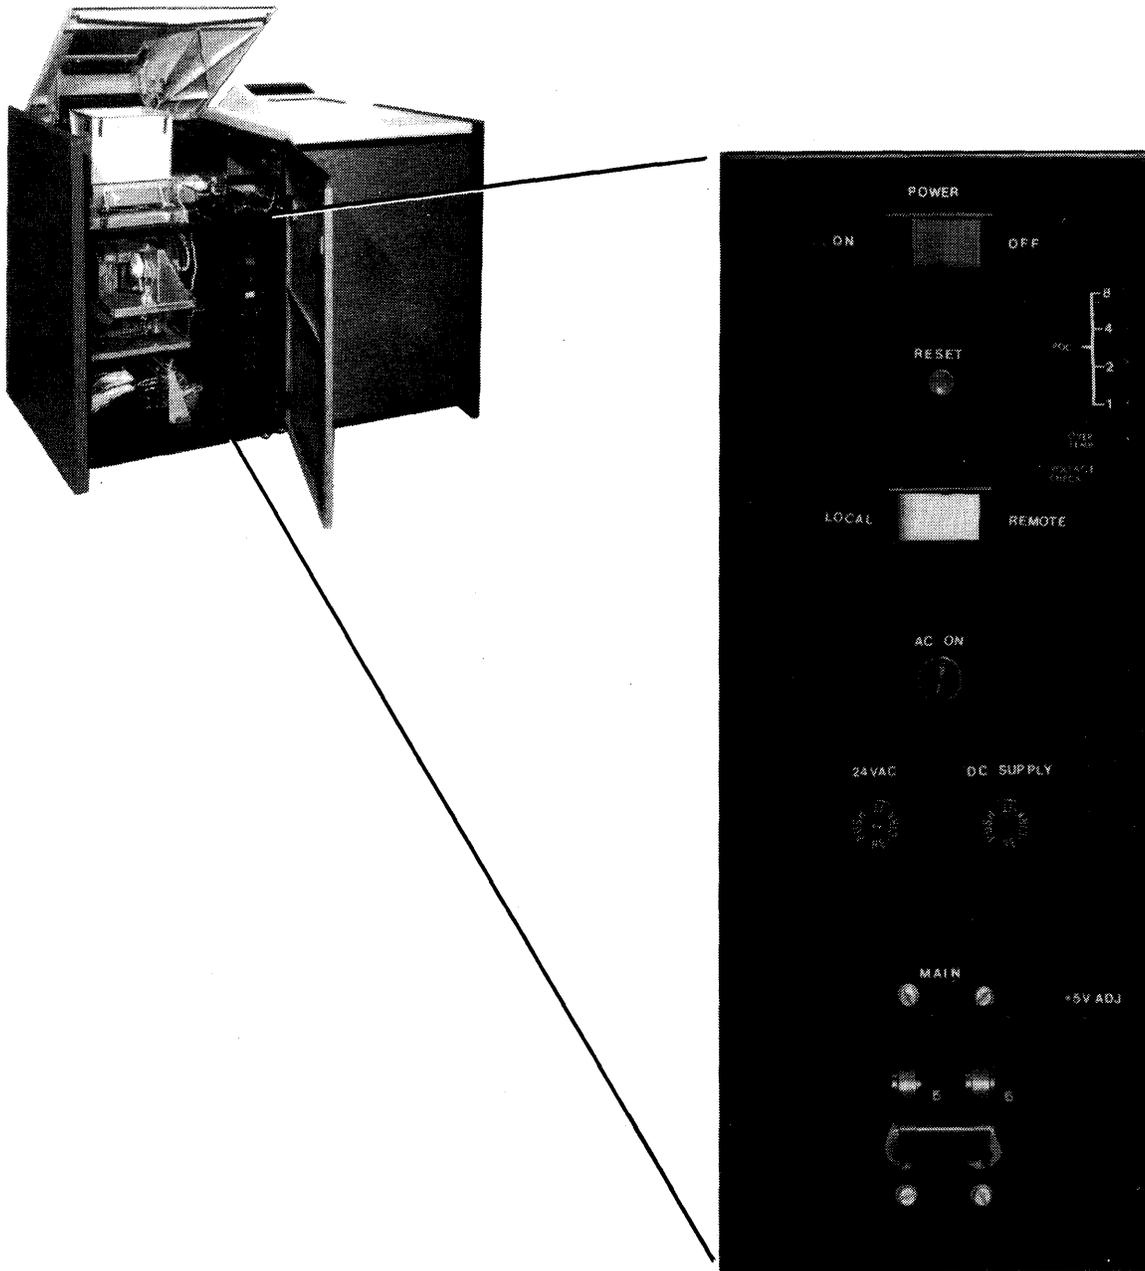

Figure 3-2. Power Control Panel
The power control panel (Figure 3-2) is located only in the master autoloader and is accessed by opening the front cabinet door. The operator is required to turn on and turn off main power to the drive unit from the power control panel.
2. Set the MAIN POWER circuit breaker on the power control panel (Figure 3-2) to the ON (up) position. Note that the AC ON indicator on the power control panel lights.